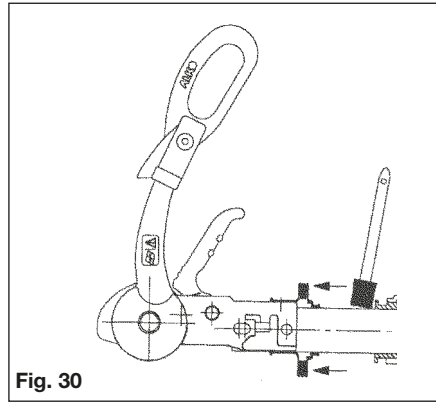

Fig. 30
- Lubricate the draw shaft sleeve via the grease nipples. In addition, push the gaiter forward and grease (DIN 51 825 KTA 3K) the exposed part of the shaft (Fig. 30).